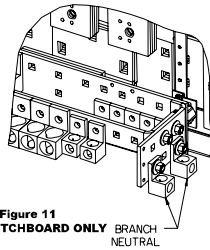

Figure 11
12. Reference fig. 11 - Installing the Branch neutral lug (item 21) in a Switchboard. The branch Neutral is located at the bottom of the "Z-rails", or mirrored at the top depending upon the feed cable location. Two (2) different Neutral Lug assemblies are included in the kit, be sure to install the type pictured below. The Neutral lug assemblies can be mounted, as shown, or on any available hole of the Branch neutral depending on the cable feed location. Torque all hardware as specified on the rear of the deadfront.